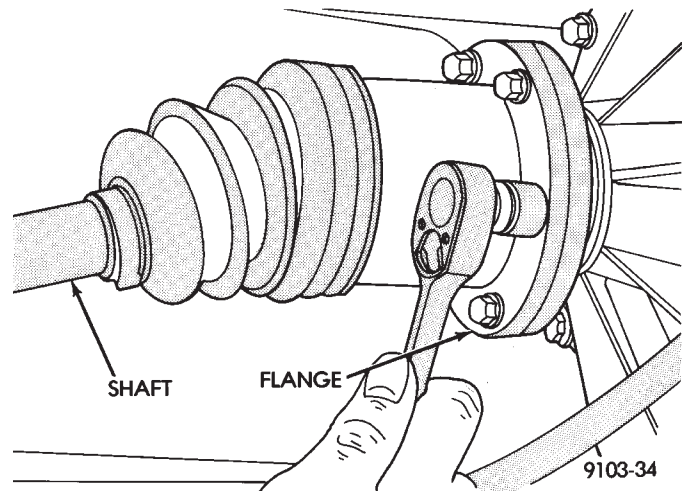

Fig. 3 Half Shaft Flange Retaining Bolts
(5) Remove half shaft flange retaining bolts (Fig. 3).